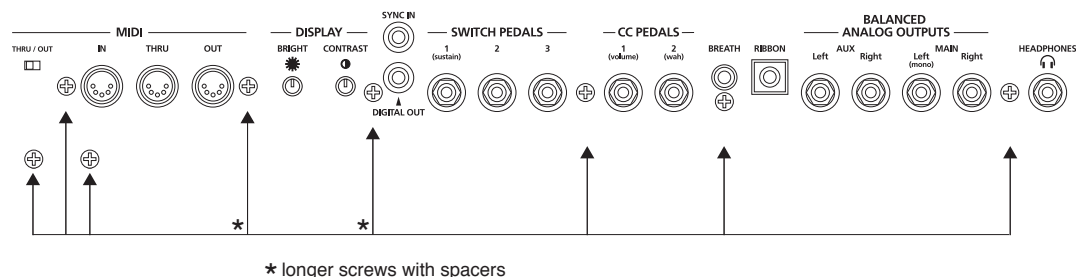

Figure 3-9 Rear panel hardware locations
6. Remove the eight screws that secure the Connector Board to the rear panel. Two screws are longer than the others and have spacers located between the screw and the rear panel. See Figure 3-9 for the locations of the screws and spacers.
2. Install the eight screws that secure the Connector Board to the rear panel. Be sure to place a spacer and use one of the longer screws at the locations noted in Figure 3-9.